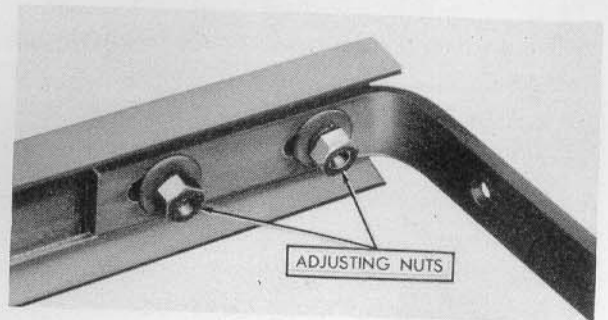

Figure 10
4. Loosen nuts on the four bolts, two on each side, near the forward end of the sub-frame. See Figure 10.